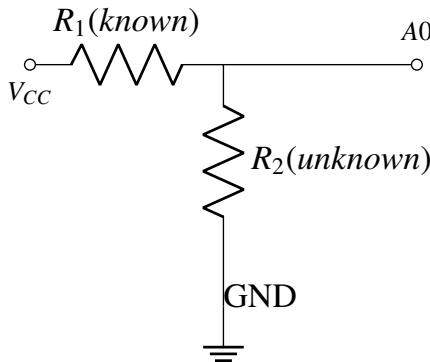

Fig. 11.1: Voltage Divider
1. Let  $R_1$  be the known resistor and  $R_2$  be the unknown resistor. Connect  $R_1$  and  $R_2$  in series such that  $R_1$  is connected to GND and  $R_2$  is connected to  $V_{cc}$ . Refer to Fig. 11.1
12. The Ohm meter in this manual works on the principle of the voltage divider shown in Fig. 11.1.